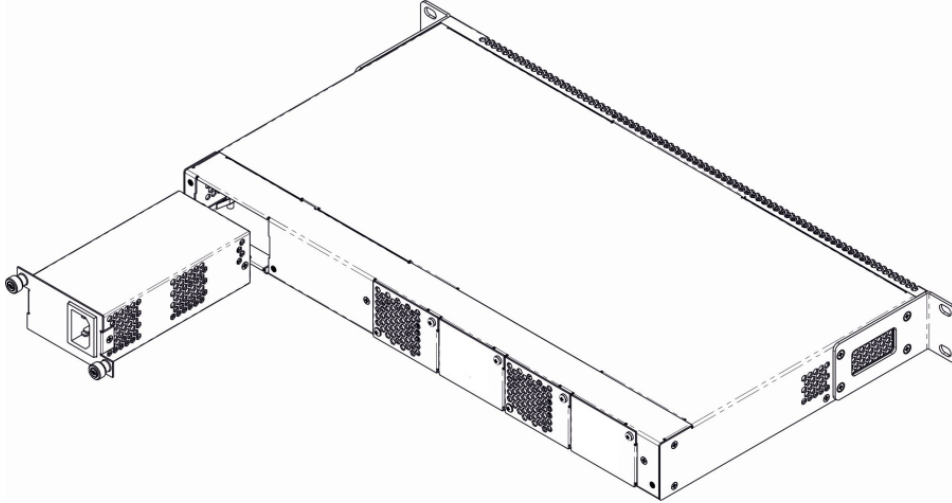
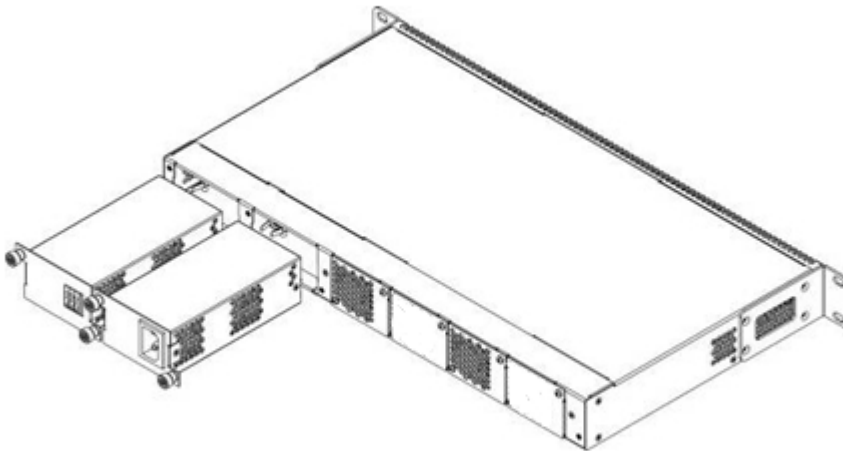

Figure 7 – Power module installation for LTP-8(16)N(T)
Figure 8 – Power modules installation for LTP-8(16)N(T)
Depending on power supply requirements, LTP-8N, LTP-16N and LTP-16NT can be supplemented with either 220 V, 50 Hz AC power module or 48 V DC power supply module. Location of the power module is shown in Figure 7.
- **Step 1.** Install the power module into the socket shown in Figure 7 or Figure 8.